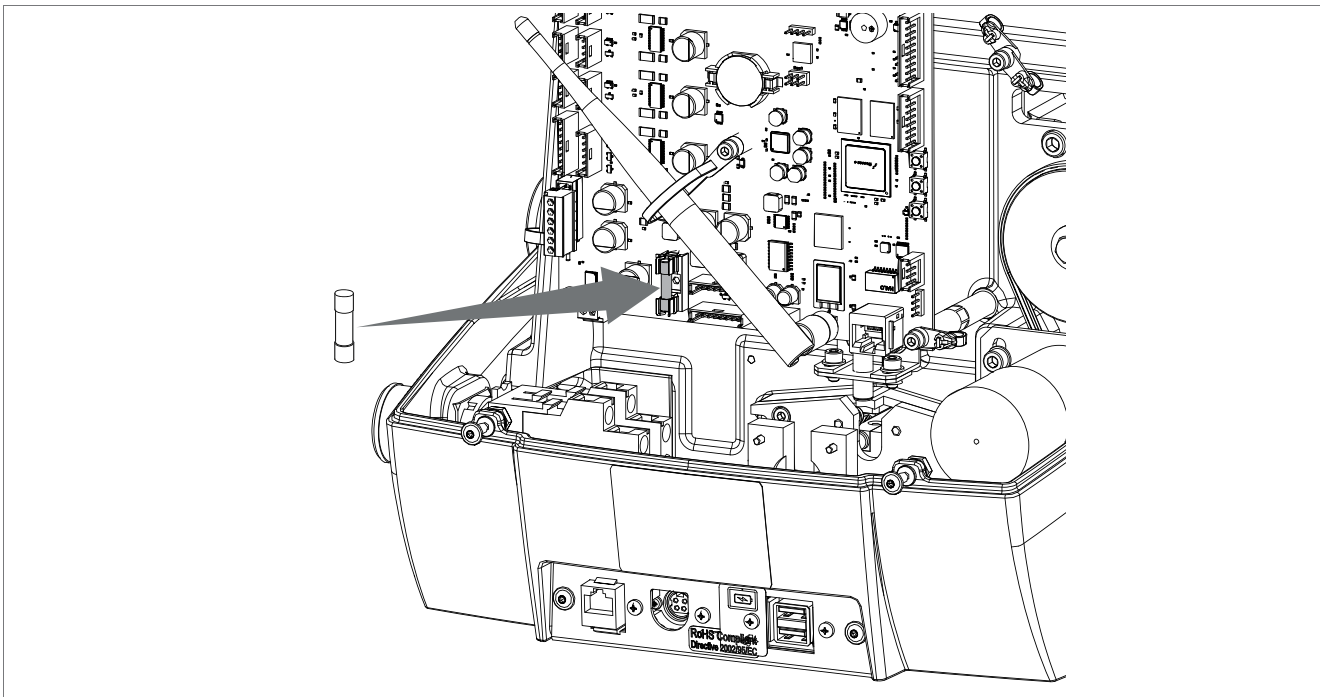

Fig. 69
- 3) Remove the fuse from its seat (Fig. 69) and replace if necessary.